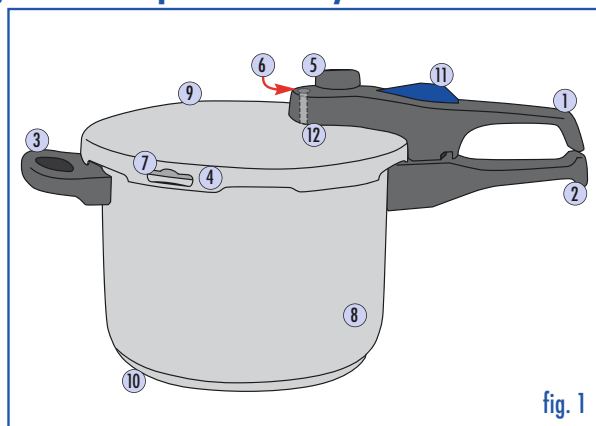
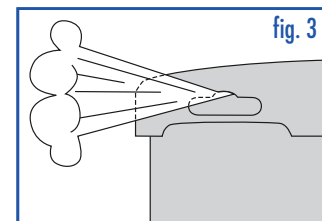

fig. 1
fig. 3
If the pressure increases too much, the rubber gasket is pushed out through an opening in the edge of the lid (fig. 1, no. ⑦), so that the pressure can escape (see fig. 3).